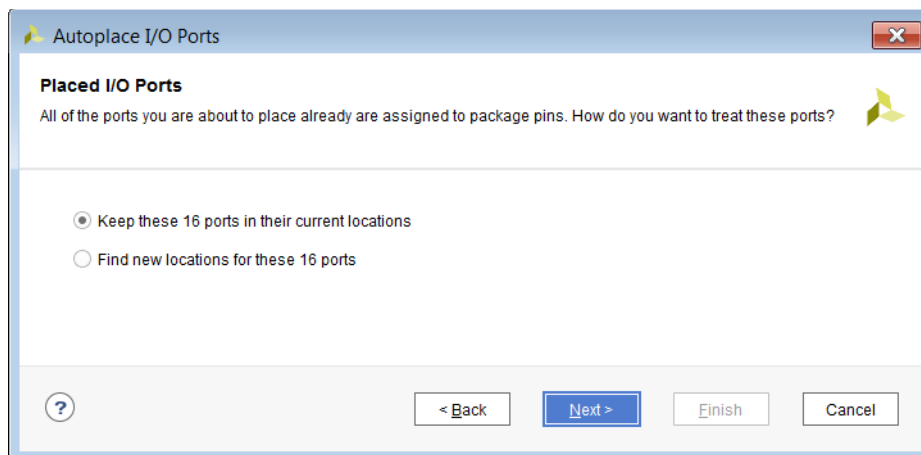

Figure 3-20: Autoplace I/O Ports Wizard—Placed I/O Ports Page
4. If you selected I/O ports that are already assigned to package pins, select an option in the Placed I/O Ports page (Figure 3-20), and click **Next**.